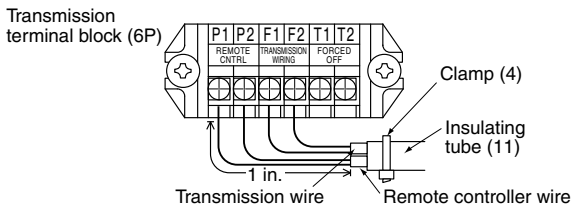

Fig. 28
- (3) Remove the control box lid.
- (4) Add 2nd remote controller to the transmission terminal block (P1, P2) in the control box. (There is no polarity.) (Refer to Fig. 28 on page 11 and Table 4 on page 11)